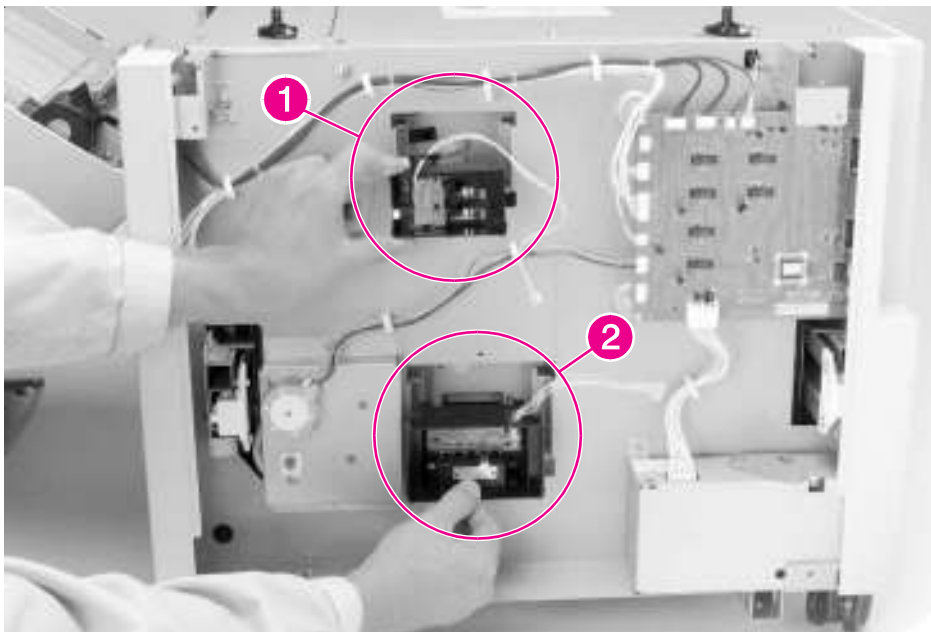

Figure 6-75 2000-sheet Input Tray Paper Size and Paper Quantity Switch Assemblies (2 of 2)
- 4 Pull the switch assembly out of its cavity (Figure 6-75, callout 1).
- 4 Pull the switch assembly out of its cavity (Figure 6-75, callout 2).